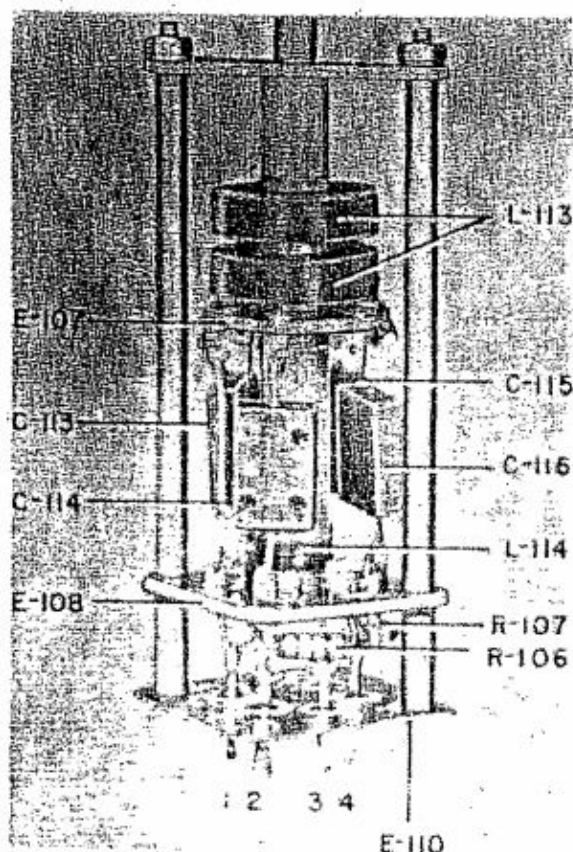

Figure 5-23. Phaser L-102, Cover Removed
(2) LOOP AMPLIFIER TEST.—Measure the socket voltages of loop amplifier tube V-101 and compare with the readings in table 5-3 or 5-4. If any considerable variation from the chart values are noted, check the wiring and components for open or short circuits. If the socket voltages are correct and reception is poor on all bands, check the components of the phaser L-102. Carefully check L-114 in the phaser, figure 5-23. To check L-114 it will be necessary to remove the shield. If reception is poor on one or two bands and the above checks do not reveal the trouble, check